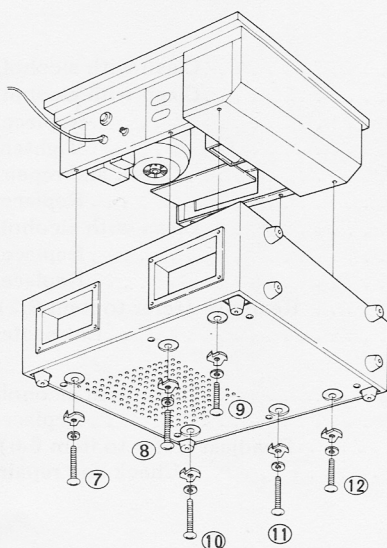

Fig. 4
1. Remove the six screws (7 ~ 12) and the claw washers shown in Fig. 4, then lift the unit from the wooden cabinet.